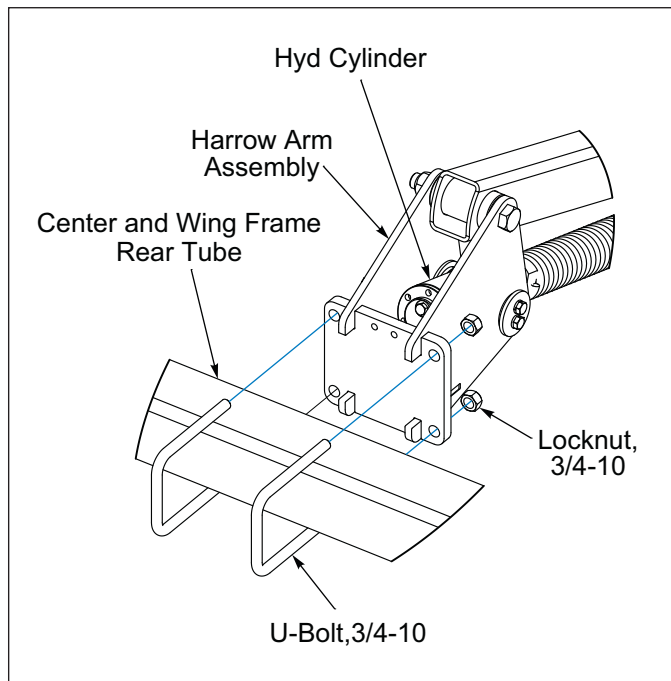

Figure 2-88: Harrow Arm Installation
2. Position Harrow Arm Assemblies onto the back of the Center Frame Rear Roller Tube or Wing Frame Rear Tube. Secure with 3/4-10 U-Bolts and Locknuts. See **Figure 2-88**.